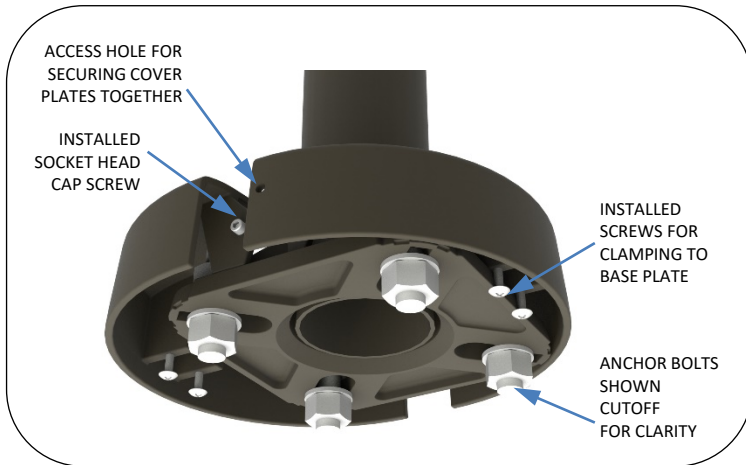

Fig. 7 – Install cover plates
12. Cover plate ships assembled. Using 3/16" hex key in the access hole, see Fig. 7, partially back out two socket head cap screws until cover plate halves separate. Slide cover plate halves together around pole, ensuring the two clamping screws on each half are below the bottom of the base plate. Retighten both socket head cap screws to secure halves together.